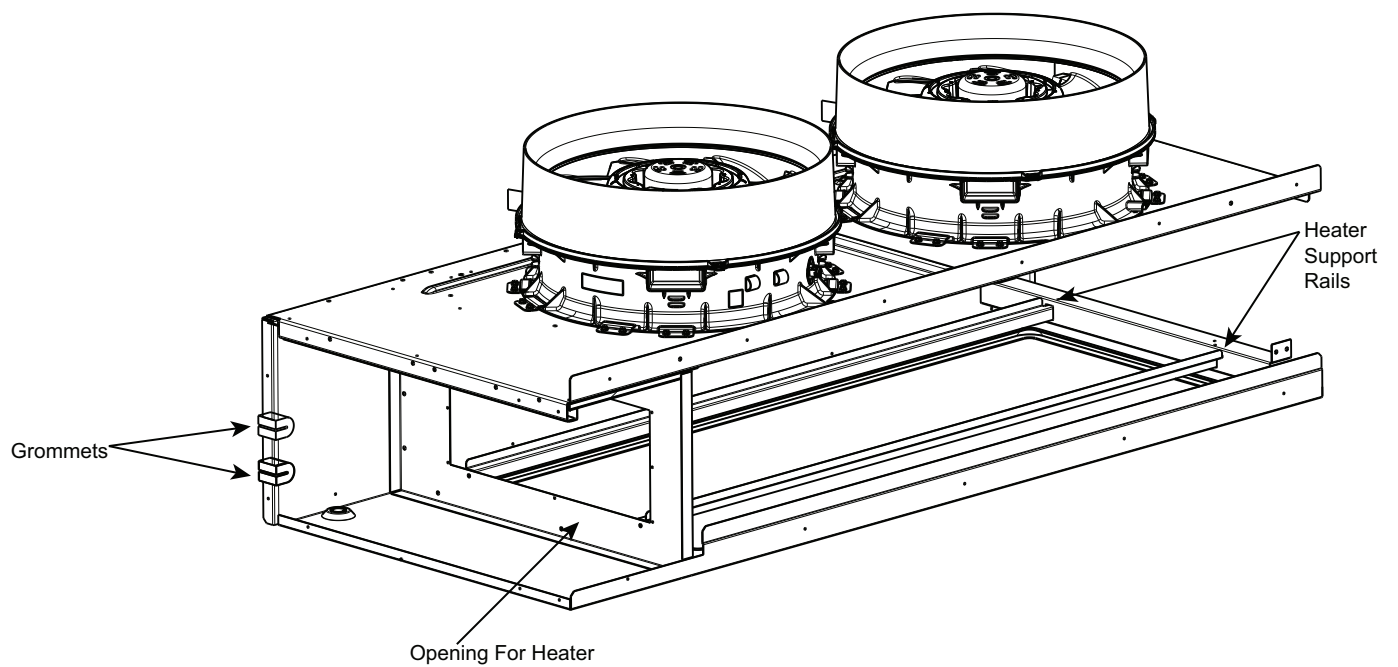

Fig. 41 — Opening for Electric Heater
4. Insert heater assembly through opening where block-off plate was previously removed. Let back end of heaters slide along support rails beneath fan deck. (See Fig. 41.)
6. Route heater power wires through grommets notches in vertical fan deck support. (See Fig. 41.) Continue routing wires under coil and filter support through the bottom notched section of the control box. Avoid sheet metal edges and any protruding screws.